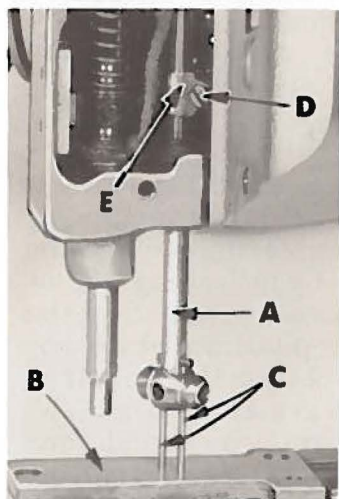

Fig. 7
Align the needle bar (A, Fig. 7) with test plate (B) No. 21227 AK- of the gauge number applicable to the machine, using test pins (C) No. 699 D. Loosen screw (D) in needle bar connection (E) permitting alignment of test pins into the test plate. With the needle bar connection (E) at the bottom of its travel and the shoulders of the test pins (C) seated on the test plate (B), the needle bar is now aligned and set at its proper height. Retighten screw (D).
If test plate and test pins are not available, insert a new set of needles, type and size as specified, loosen screw (D, Fig. 7) slightly, lower and turn needle bar as required until the oblique position of the needles correspond with the vertical faces of the rear needle guard.